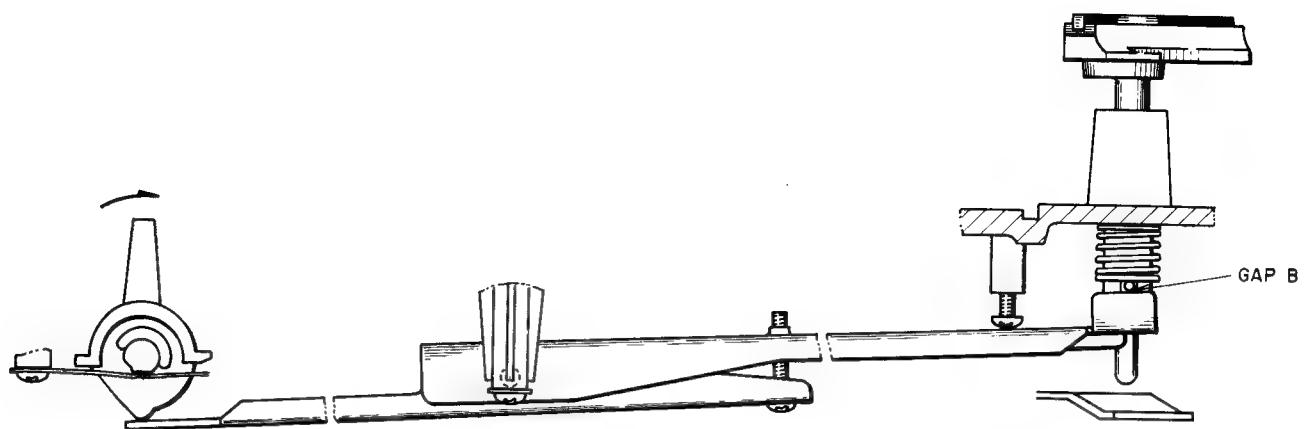

Fig. 10
tion control at **▼**, adjust screw (b) at exactly the point where the gap (B) between the shaft pin and the elevation lever (A) disappears. (Refer to Fig. 10.)